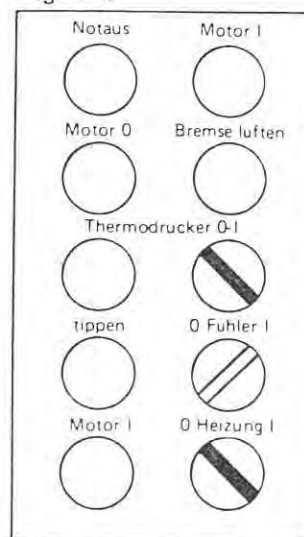

Fig. 128
3. Switch off the heater for the thermal printer or cutting wire, using the appropriate select switch (Figure 128).